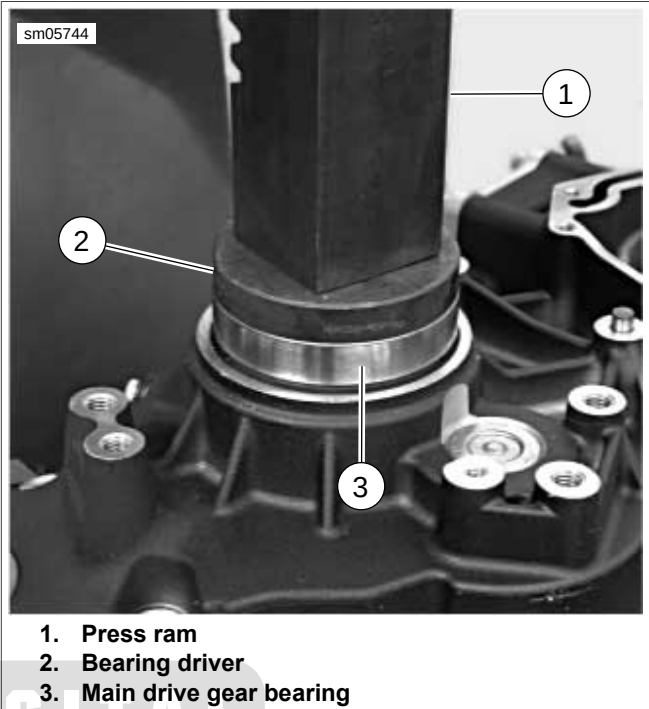

Figure 5-76. Installing Main Drive Gear Bearing: XR 1200X
1. See Figure 5-76. From the outside of the case, position the main drive gear bearing (3) and bearing driver (2) over bearing bore in crankcase.